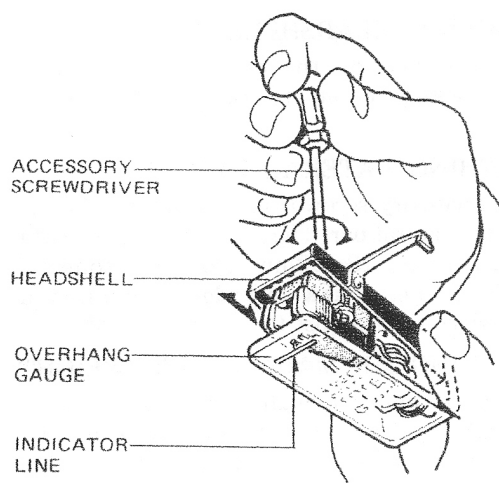

Fig. 2
4. Adjust the overhang using the accessory overhang gauge. To do this, hold the headshell against the overhang gauge as shown in Fig. 2, aligning the indicator line on the overhang gauge with the stylus positioned, tighten it firmly in place with the mounting screws, being careful that it does not tilt to one side.